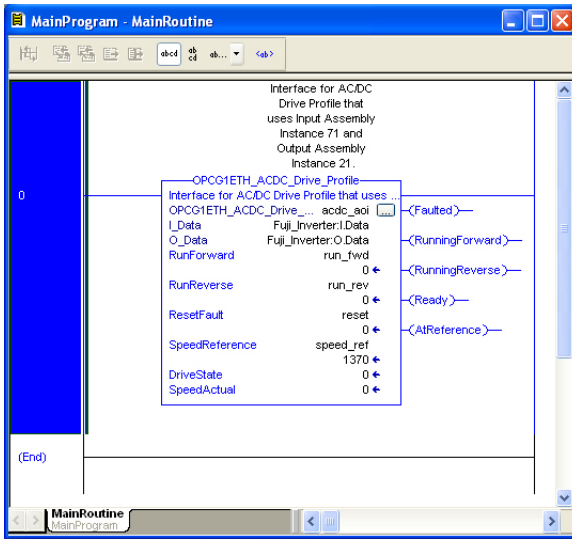

Figure 92: Configure AC/DC Drive Profile AOI
- 10) Edit the add-on instruction according to Figure 92.